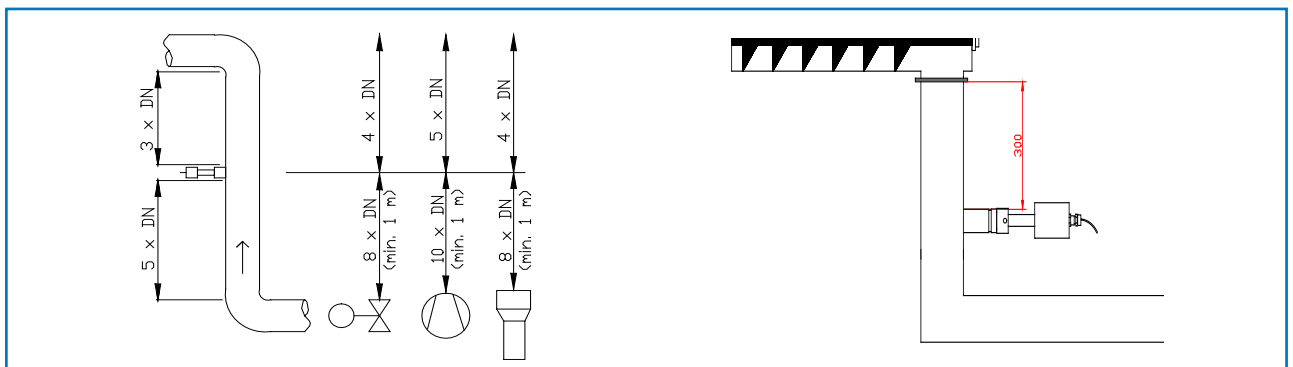

Fig. 8: Minimum distances of the measurement point from pipe geometries and fittings
- Ensure that the measurement point is at an adequate distance from valves, manifolds, blowers and bucket wheel feeders and other measurement ports such as those used for pressure and temperature sensors, etc. (see fig. 8)